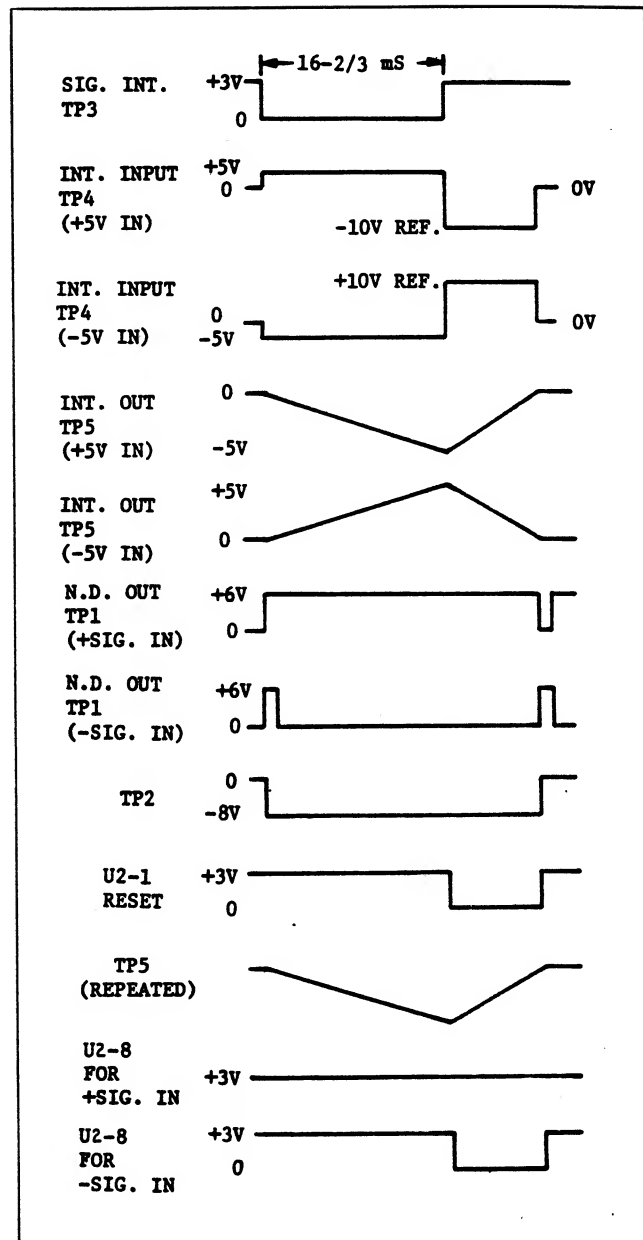

Figure 5.18 - Integration Timing Diagram, 5 1/2 Digit Mode
5.3.5.6.5 The end of the reference integration period occurs when the Null Detector detects an axis crossing and changes state. When a reset pulse is applied to T2, Q4 is turned on and Q3 is turned off. Both of the polarity switch drive flip-flop outputs are set high, which holds both reference switches (Q21 and Q22) open. The reset signal also closes reset switches Q7, Q11 and Q16. Integration timing is shown in Figure 5.18.